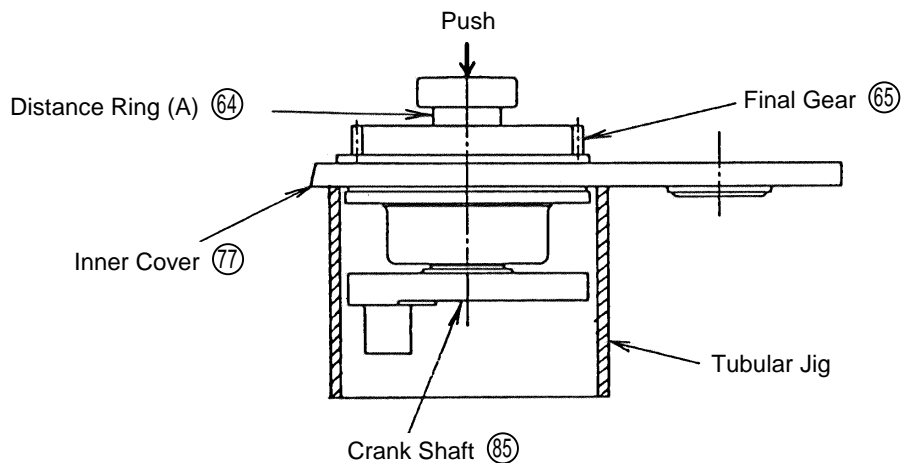

Fig. 9
(2) Disassembly of the Crank Shaft (85) Section:
Remove the four M8 x 18 Hex. Socket Hd. Bolts (82). As illustrated in Fig. 9, support the lower surface of the Inner Cover (77) with an appropriate tubular jig (100 mm inner dia.), apply an appropriate steel rod (maximum diameter of 19 mm) to the end surface of the Crank Shaft (85), and push it downward with an arbor press. The 6204ZZCM Ball Bearing (63), Distance Ring (A) (64), Distance Ring (B) (66), Distance Ring (C) (78), Final Gear (65), 4 x 4 x 12 Feather Keys (84) Bearing Boss (81), 6305ZZCM Ball Bearing (79) and Crank Shaft (85) can then be removed from the Inner Cover (77).